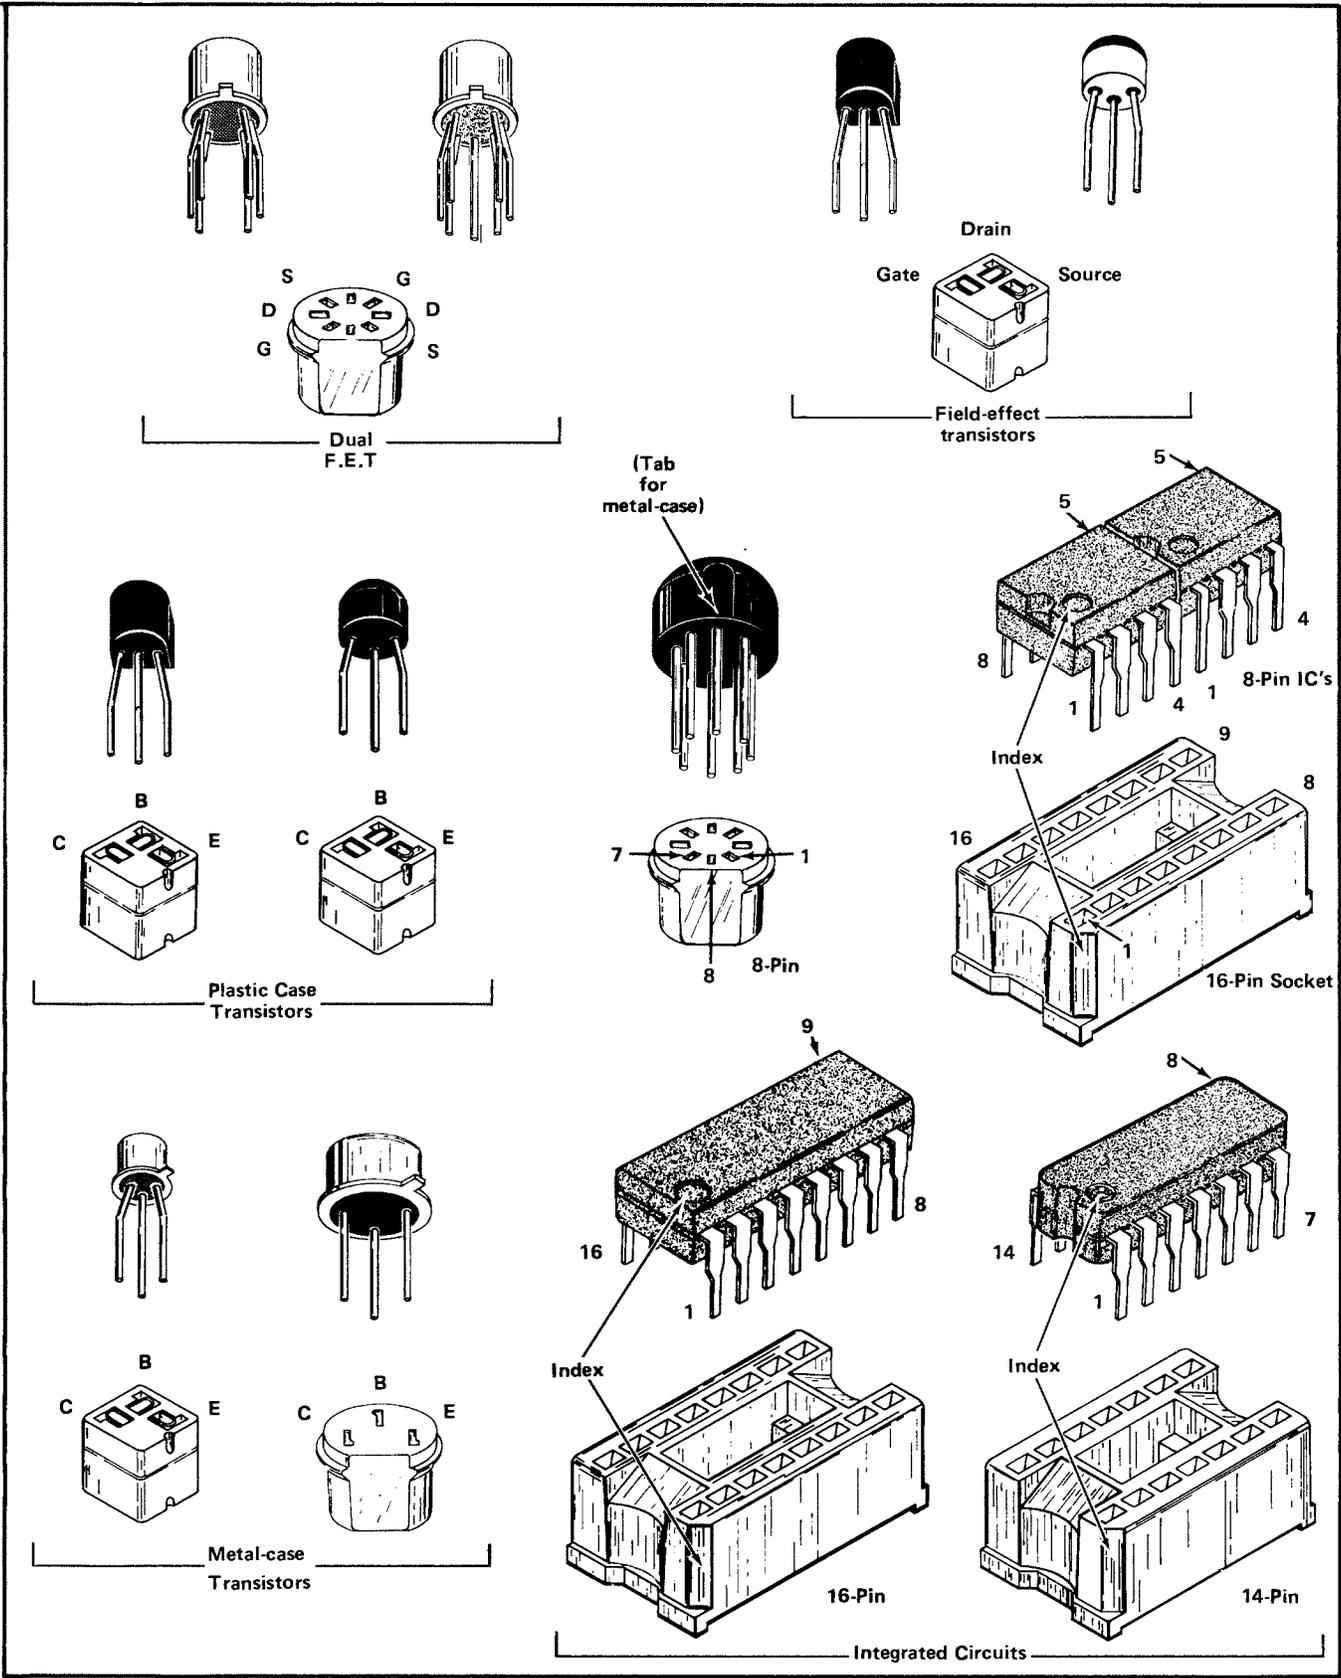

Fig. 4-1. Electrode configuration for semiconductors used in this instrument.
**Semiconductor Lead Configuration.** Fig. 4-1 shows the lead configuration of the semiconductor devices used in this instrument.
The best check of transistor and integrated circuit operation is actual performance under operating conditions. If a transistor or integrated circuit is suspected of being defective, it can best be checked by substituting a component known to be good; however, be sure that circuit conditions are not such that a replacement might also be damaged. If substituting transistors are not available, use a dynamic tester (such as Tektronix Type 576). Static-type testers may be used, but since they do not check operation under simulated operating conditions, some defects may go unnoticed. Fig. 4-1 shows base pin and socket arrangements of semiconductor devices. Be sure the power is off before attempting to remove or replace any transistor or integrated circuit.